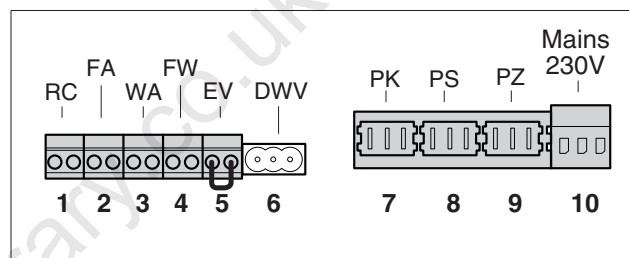

fig. 41 Terminal strip connections
Items 1 – 6 (fig. 41) are low-voltage connections and items 7 – 10 (fig. 41) are 230 V-connections.